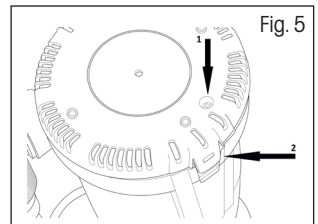

Fig. 5
- ☼ Unscrew the cover screw (1) and then release the cover lock (2) by pulling it away from the pump (Fig. 5). After fitting the new cover, secure it again with the screw.